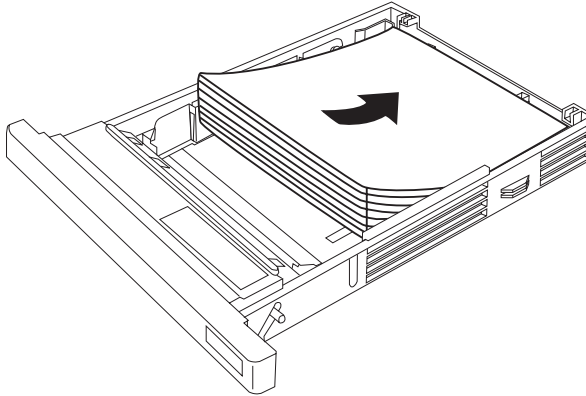

Fig. 4.6 *Putting Paper in the Tray*
1. You may load up to 250 sheets into any of the optional paper cassettes. Align the edges of the paper you wish to insert into the cassette by tapping the paper loosely on a flat surface. Slide the paper into the cassette from the front side as shown in figure 4.6.